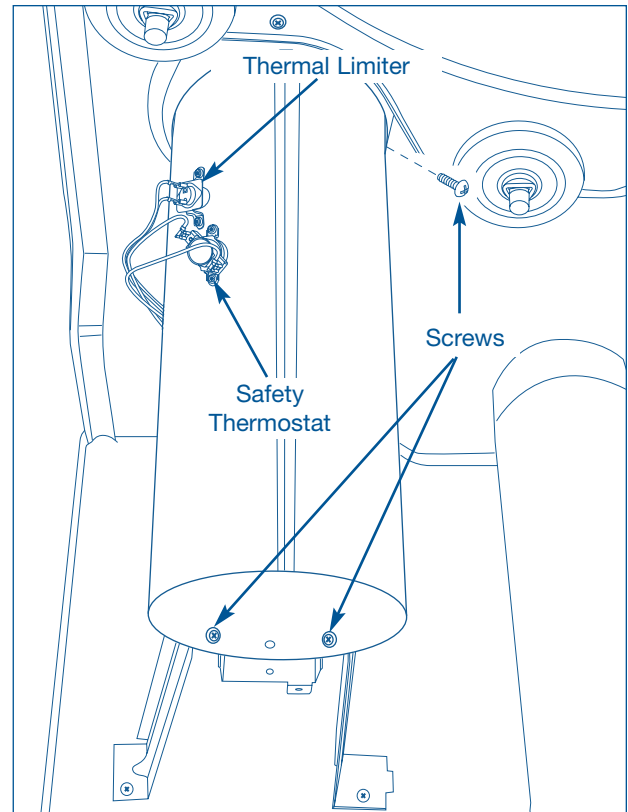

Figure 4-53.
4. Using a #2 square bit screwdriver, extract the two screws at the front of the combustion tube and the single screw at the right rear. (See Figure 4-53)